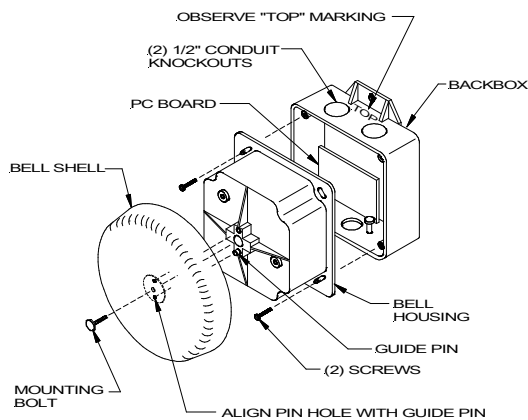

Figure 3: Removal of Bell Shell and Housing
2. Hardwire Connection - Figures 3 and 4: